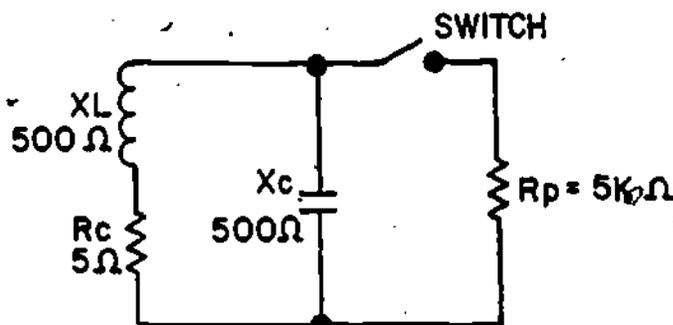
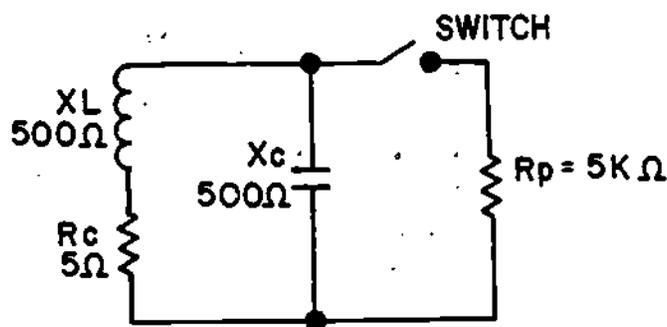

Figure 17
Figure 18
- (18.) You have learned to apply  $Q$  to tank circuits. Now you will learn to apply  $Q$  to a loaded circuit in which the tank is a part. Figure 17 shows a loaded circuit which includes a tank, a switch, and a parallel load. ( $R_p$ ).
The resonant tank in Figure 17 relates  $Q$  to a practical circuit. The  $Q$  of the tank with the switch open is calculated by a method with which you are familiar, and equals  $\frac{500 \text{ ohms}}{5 \text{ ohms}}$ , or 100. However, when the switch is closed, the tank will deliver energy to the parallel load which is
19. Figure 18 again shows the loaded tank circuit from Figure 17.
The formula for the  $Q$  of the loaded tank circuit is expressed as  $Q_{ckt} = \frac{R_p}{Y_L}$  or  $\frac{R_p}{Y_C}$ . This formula is different from the formula for  $Q$  of a tank. In Figure 18,  $X_L$  equals  $X_C$  which equals 500 ohms, and  $R_p$  equals 5 kilohms. The  $Q$  of the circuit with the switch closed equals  $\frac{5 \text{ kilohms}}{500 \text{ ohms}}$ , or 10.